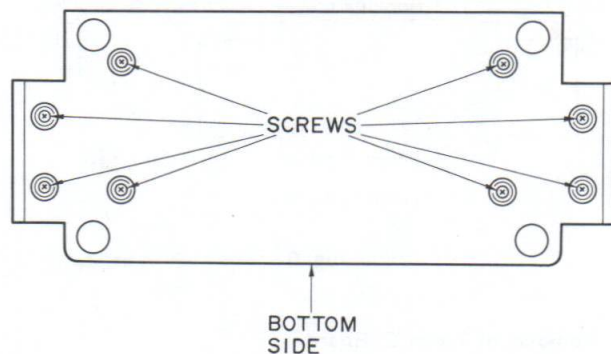

Fig. 3
- 2) Remove the disc holder cap from the holder, turning it counterclockwise. (Refer to Fig. 3.)
- 1) The bottom plate can be removed by removing the eight screws (yellow bind head, M4 x 16) and washers shown in Fig. 3. This will allow access to the amplifier and cassette Deck PCB.